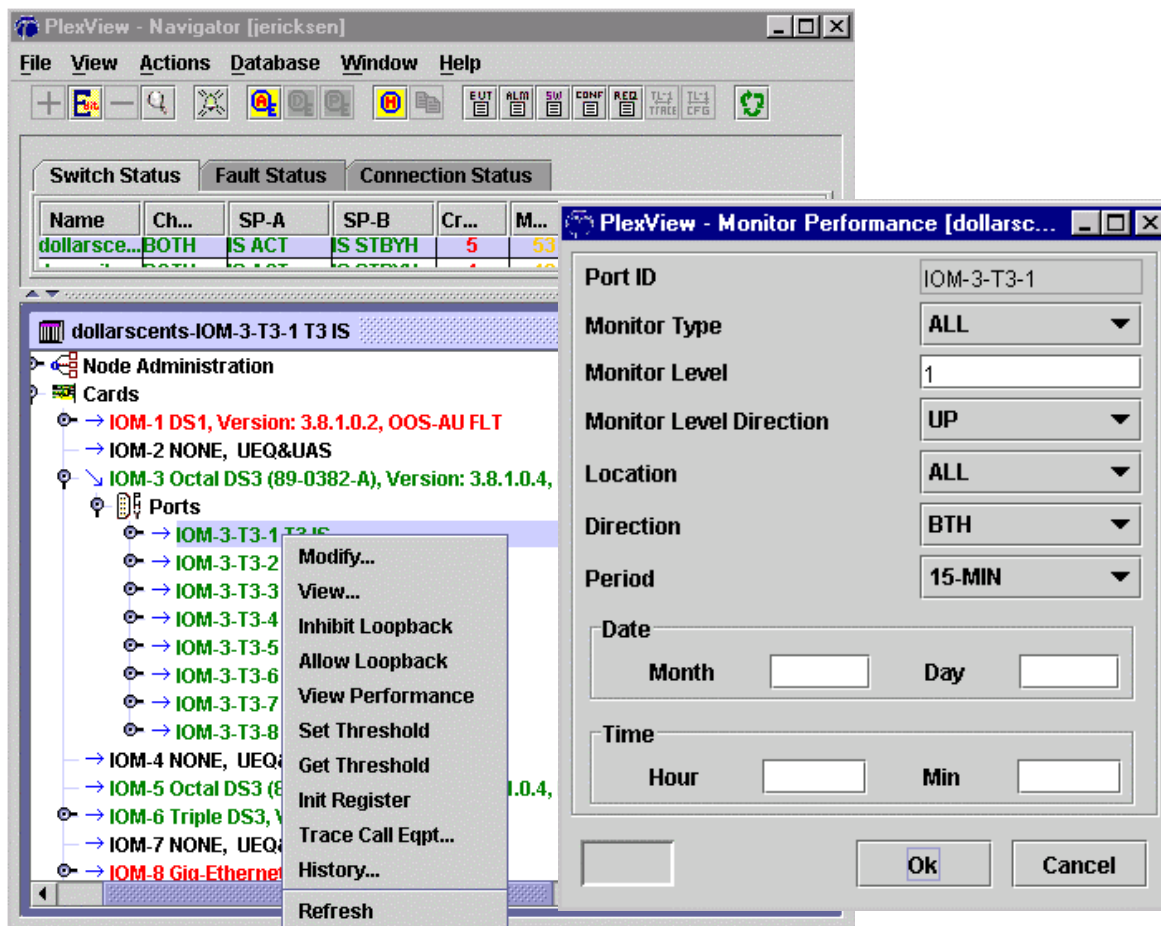
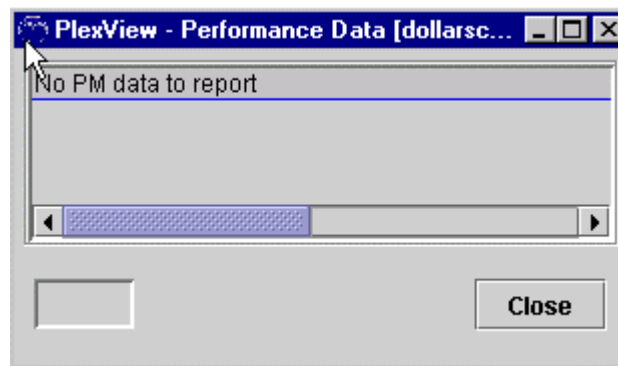

Figure 6. Monitor T3 Performance
Figure 7. Performance Data
14. Retrieve current and historical performance data related to T3s. Double-click *Switch*, *Switch name*, *Cards*, desired *IOM*, *Ports*, and desired port. Right-click desired port, select *View Performance*. Make changes if necessary and then click *Ok*. See Figure 6. After clicking *Ok*, you will see a screen similar to Figure 7. Reference DLP-538 for detailed information for the command.